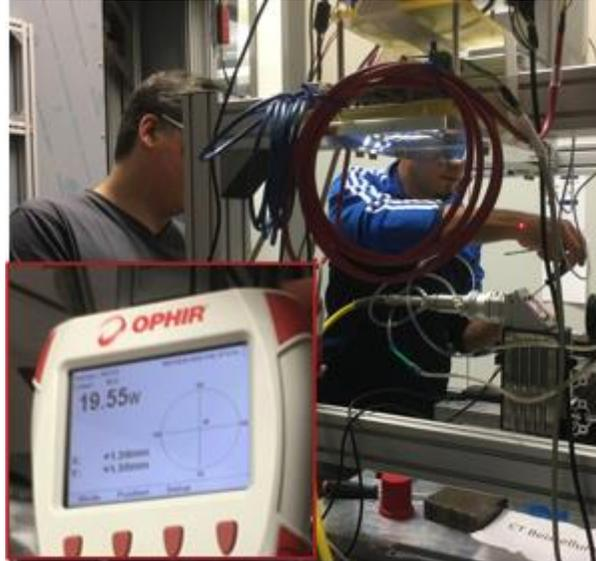

Figure 12: Handheld display of the alignment tool's thermopile
13. Monitor the laser beam position on the alignment tool's thermopile via the handheld display, see Figure 12 on page 48, in the following.